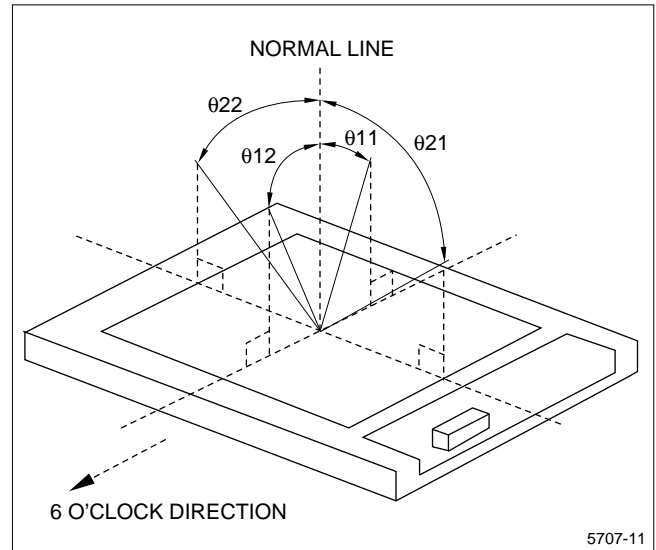

Figure 9. Definition of Viewing Angle Range
2. Figure 9 shows the definition of the viewing angle range.